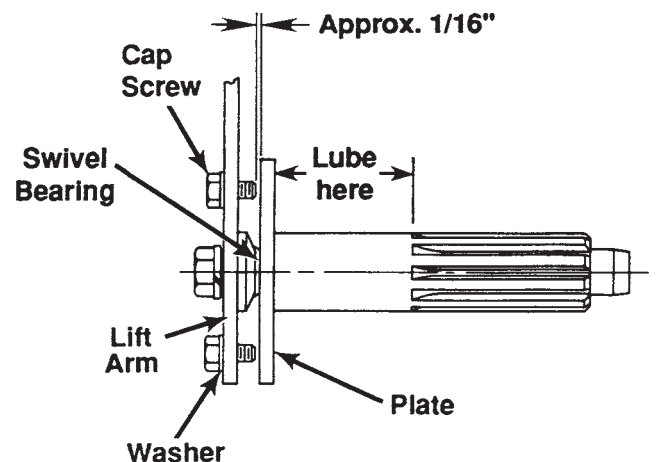

Figure 1
7. Measure distance between plate (#15) and cap screws (#14). If distance is less than 1/16", remove two cap screws (#14), and insert a washer (#7) between each cap screw (#14) and upper lift arm. Wrench tighten. See Figure 1.
2. Sparingly apply lubricant to the area of the splined input shaft shown in Figure 1.
1. Sparingly apply lubricant to the area of the input shaft shown in Figure 1.
1. Remove the bolt and splined shaft from the clutch handler as shown in Figure 1.